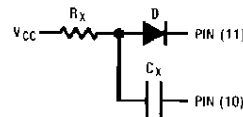

FIGURE 2
- If  $C_X$  is an electrolytic capacitor a switching diode is often required for standard TTL one-shots to prevent high inverse leakage current (*Figure 2*).